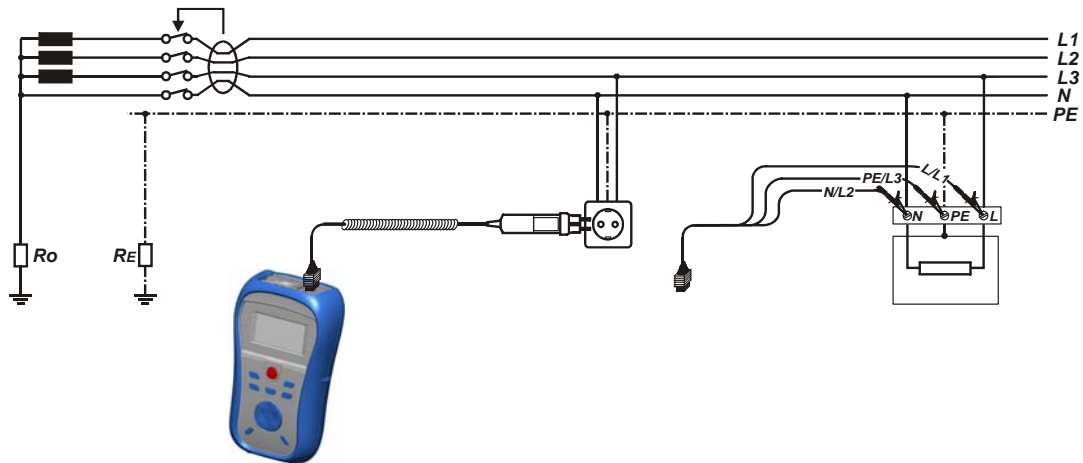

Figure 5.2: Connecting the plug commander and the universal test cable
- ❑ **Connect** test leads to the item to be tested (see figure 5.2).
- ❑ **Connect** test leads to the item to be tested (see *figure 5.2*).
<ul style="list-style-type: none"> <li>□ Select the RCD function using the function selector switch.</li> <li>□ Set sub-function AUTO.</li> <li>□ Set test parameters (if necessary).</li> <li>□ Connect test cable to the top of the instrument.</li> <li>□ Connect test leads to the item to be tested (see figure 5.2).</li> <li>□ Press the TEST key to perform the test.</li> </ul>	Start of test